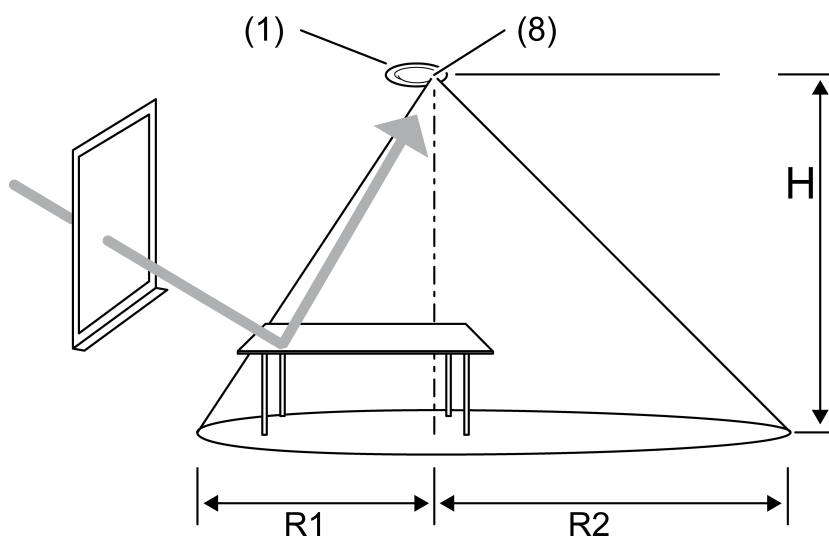

Figure 3
- When mounting, align the device so that the brightness sensor (8) is not facing the window (figure 3).